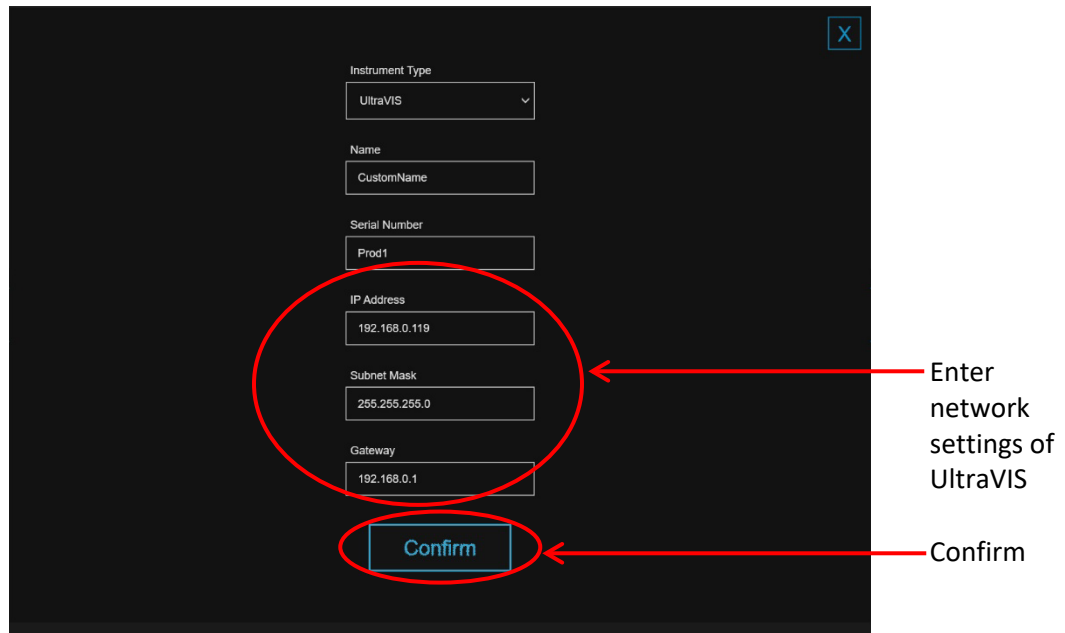

Figure 67: FlowHub Instrument Setup Screen
- c. Fill fields with the same IP Address, Sub Net Mask, and Gateway that you used to set up the UltraVIS network settings in Step 2 and press **Confirm**. See Figure 67.